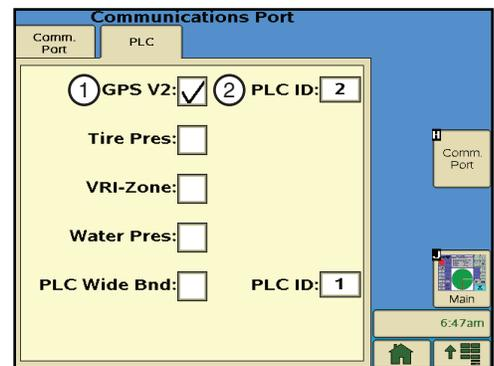

Figure 39-2 1. GPS V2 2. PLC ID
- (e) Check the **GPSV2** checkbox. See Figure 39-2.